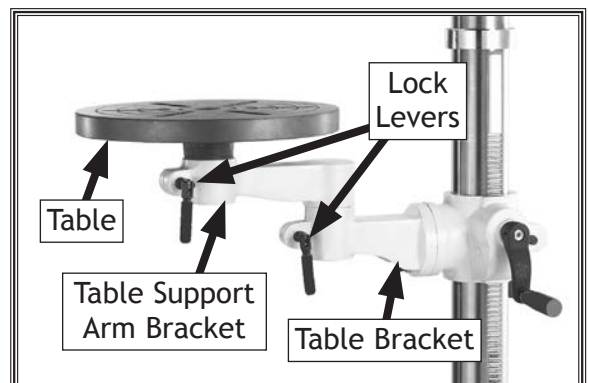

Figure 17. Model W1670 table assembly.
- 13. **W1670 Only:** Install the table support arm bracket onto the table bracket, then install the table and tighten lock levers to secure (see Figure 17).